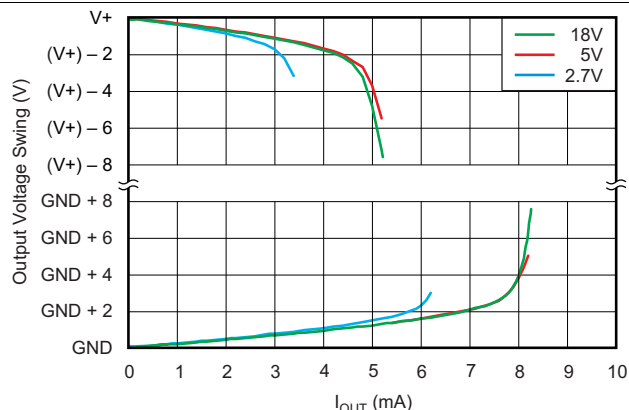
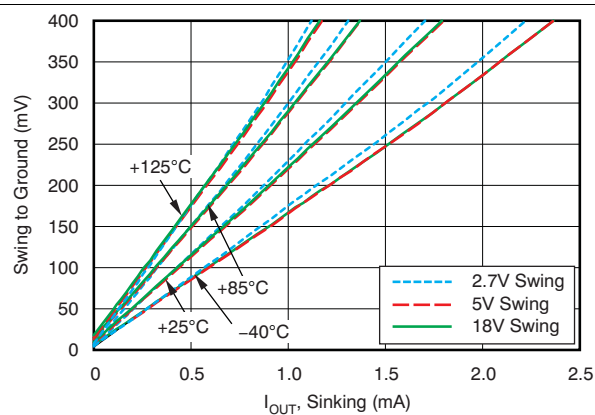

Figure 16. INA284-Q1 Output Voltage Swing vs Output Current
Figure 18. INA283-Q1 Swing to Ground vs Output Current
(6) See typical characteristic graphs Figure 16 through Figure 18.